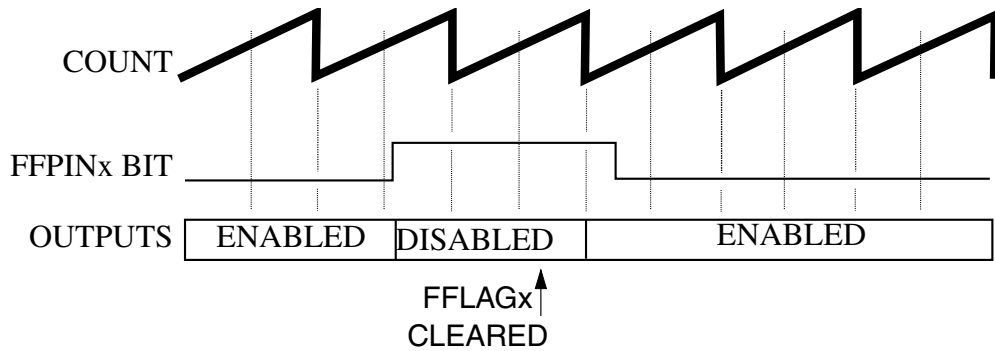

Figure 26-30. Manual fault clearing (FCTRL[FSAFEx] = 0, FSTS[FFULLx] = 1)
- The pins are enabled when the next PWM full or half cycle begins regardless of the logic level detected by the filter at the `FAULTx` pin, as shown in Figure 26-30. If `FSTS[FFULLx]` is set, then the disabled PWM pins are enabled at the start of a full cycle. If `FSTS[FHALFx]` is set, then the disabled PWM pins are enabled at the start of a half cycle.